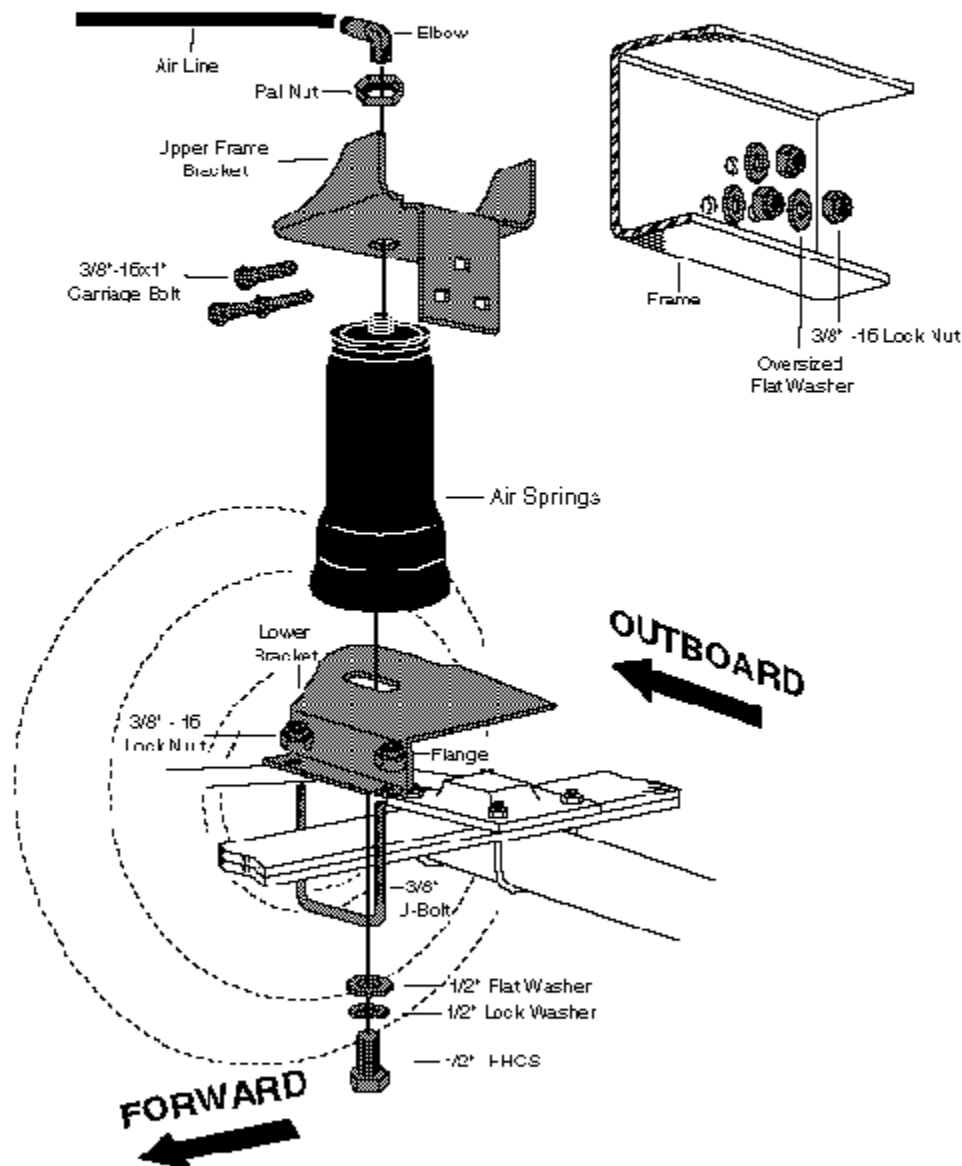
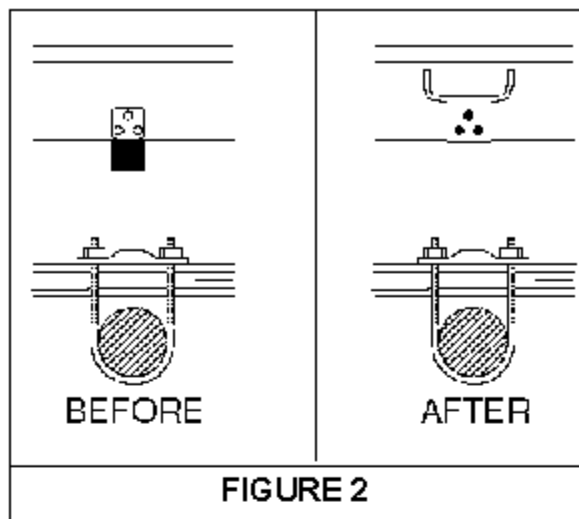

FIGURE 1
FIGURE 2
2. Using a cutting torch or hammer and chisel, cut retaining rivets and remove axle jounce bumper (Figure 2). Insure that all gas and hydraulic lines and electrical wiring are moved aside before removing rivets.
3. Align the upper bracket holes with existing holes where the jounce bumper bracket was (Figure 2). Attach the upper bracket to the frame using carriage bolts, oversized flat washers and lock nuts (Figure 1).
4. Assemble the lower bracket to the bottom of the air spring using the 1/2" flat washers, lock washers and bolt. Leave loose for later adjustment. Flange of the lower bracket should face forward (Figure 1). These are left and right hand brackets. Edge side faces inboard.
5. Set the assembly on the leaf spring and attach top of the air spring to the upper bracket using the Pal nut (Figure 1). Tighten to 15 ft.lbs.
If the vehicle's headlights are shining into the trees or the vehicle is leaning to one side, then it is not level (fig. 1). Raise the air pressure to correct either of these problems and level the vehicle.
If the vehicle has a rough and harsh ride it may be due to either too much pressure or not enough (fig. 2). Try different pressures to determine the best ride comfort.